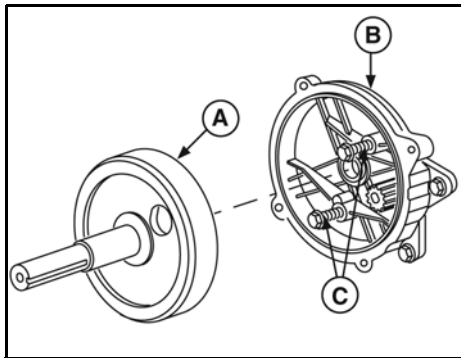

Figure 18
5. Remove drive shaft assembly (A, Figure 18) from gear case (B).
6. Bend down two screw locks (C), if equipped. Remove four cap screws. Slide gear case off engine.